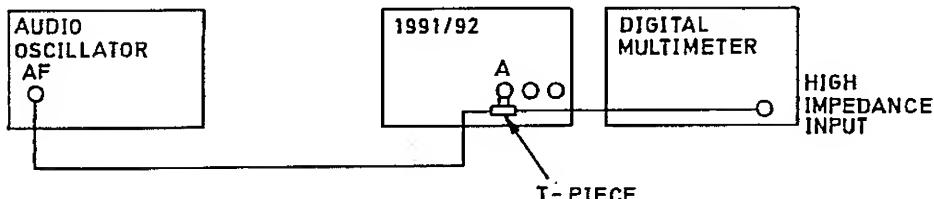

Fig 7.16 Connections for Channel A Sensitivity PVP
46 (1) Connect the test equipment as shown in Fig 7.16.
(2) Set the signal generator output to the frequencies shown in Table 7.5 in turn. Set the 1991/92 resolution to the corresponding value. Enable the 50 kHz filter.
(3) At each frequency, determine the minimum input level to the 1991/92 which gives stable counting. Verify that this is not more than the level shown in the table.
(4) Disable the 50 kHz filter. Disconnect the test equipment.